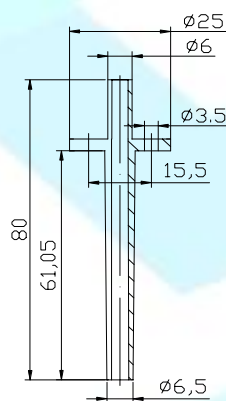
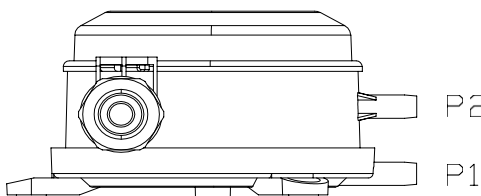

Fig. 5
Fig. 7
1. Insert the 2 pressure connection parts as Fig. 5 or 6 with the long side (60mm) into the prepared holes. Each part should be installed with 2 screws. Be sure to seal the holes after installing to keep the holes airproof.
2. Connect the plastic tube. The standard accessory is 2m long with inner φ 6mm. Cut the tube as short as possible to connect the ports P1 & P2 on the switch and the other side of accessory of RSA-2006 or RSA-2018 as Fig. 5 or 6. P1 is high port on the bottom of the switch and P2 is low port on the switch body as Fig. 7.